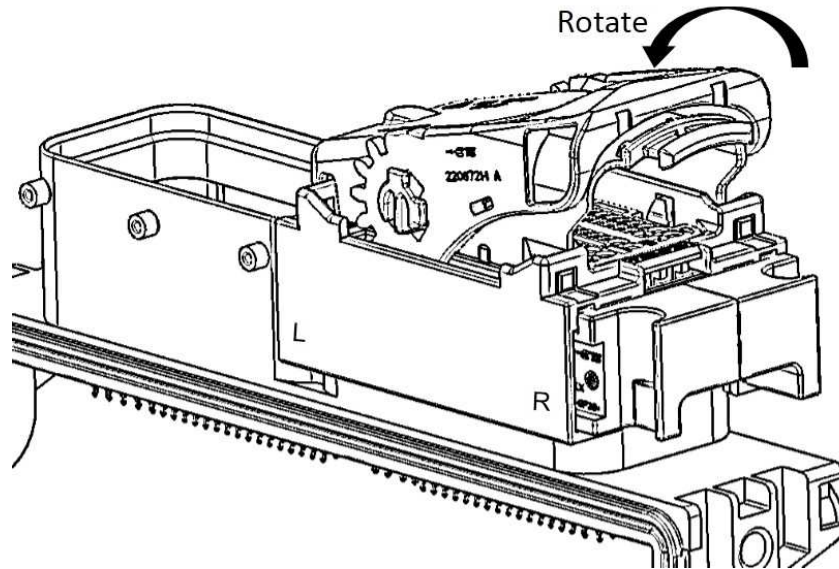
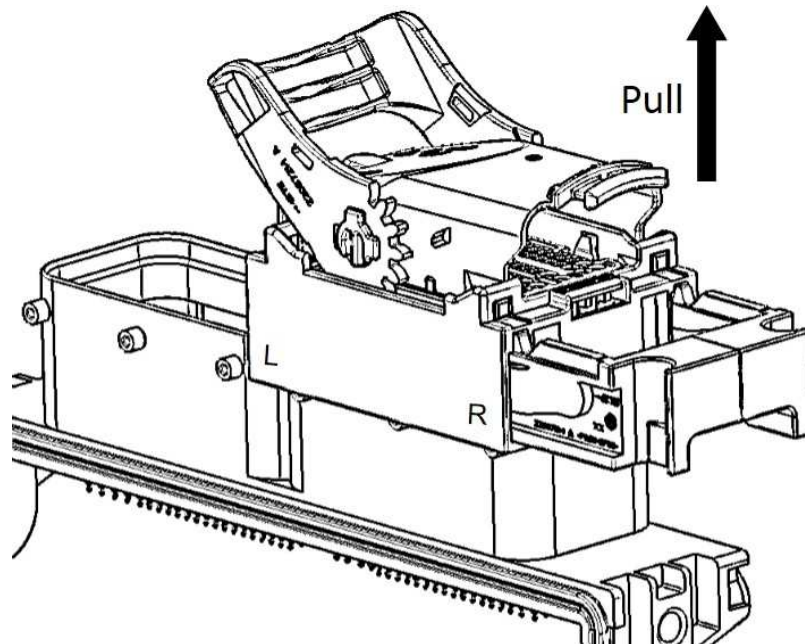

Figure 22
Figure 23
To unmount (both 91 and 105 position) the Female connector from the Male connector with cover-lever assembly (5), apply the torque to actuate the lever on the Female connector till the lever locks at pre-lock position (as shown in figure 22). Then the entire female connector is pulled out from the male connector (as shown in figure 23).